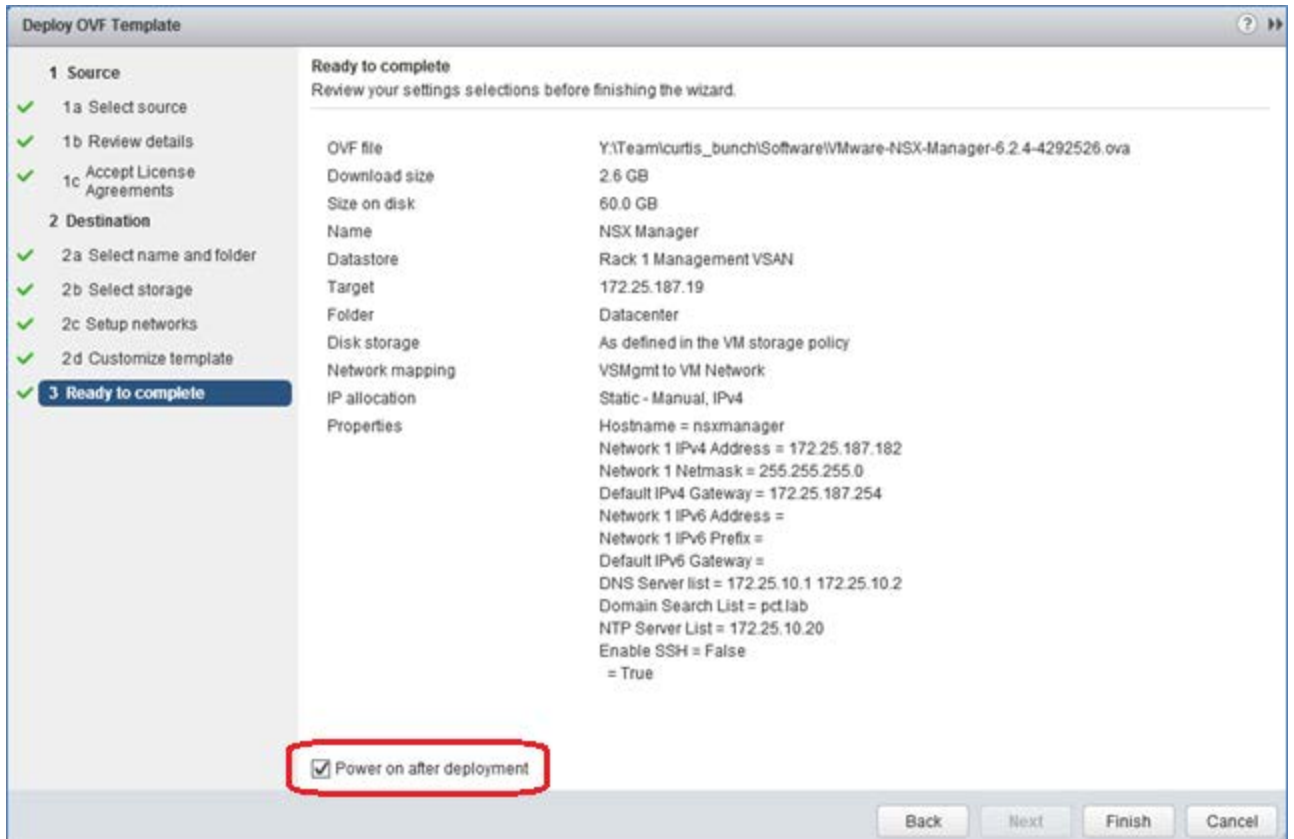

Figure 68 NSX Manager summary screen
10. The **Ready to complete** screen provides a summary of the installation as shown in Figure 68. Review your settings, check the **Power on after deployment** box and click **Finish**.